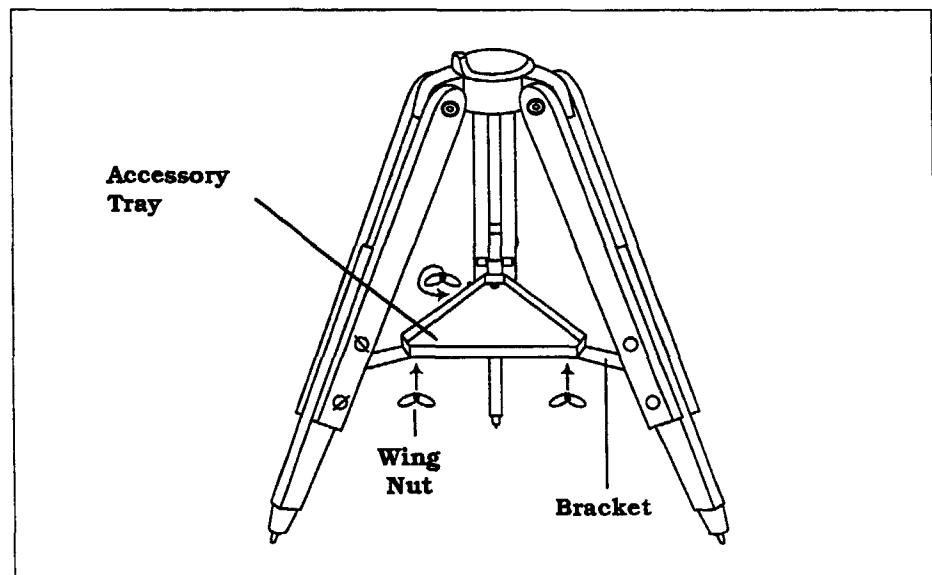

Figure 2-3
3. Insert the wing bolts up through the slotted holes in the bracket (see figure 2-3).